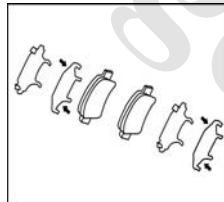

Fig. 2-58
② Install the retaining ring by a screwdriver. Note: Do not damage the dustproof cover of the slave cylinder.
① Smear the lithium base glycol grease on the surface of 2 new dustproof covers.
② Install the 2 dustproof covers into the support of front disc brake slave cylinder.
① Smear the lithium base glycol grease on the sliding part of the 2 sliding pins and the surface of oil seal.
② Install the 2 sliding pins into the support of the front disc brake slave cylinder.
① Smear grease for disc brake on the two sides of each silencer pad. See Fig. 2-58.